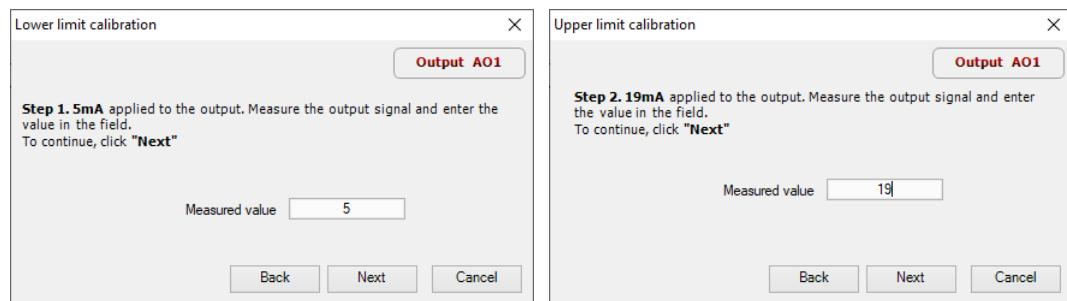

Fig. E.5
- Calculate the output current from the measured output voltage and the set resistance; enter the result in the input field (Fig. E.5).
7. Enter the measured output voltage in the input field (Fig. E.5).